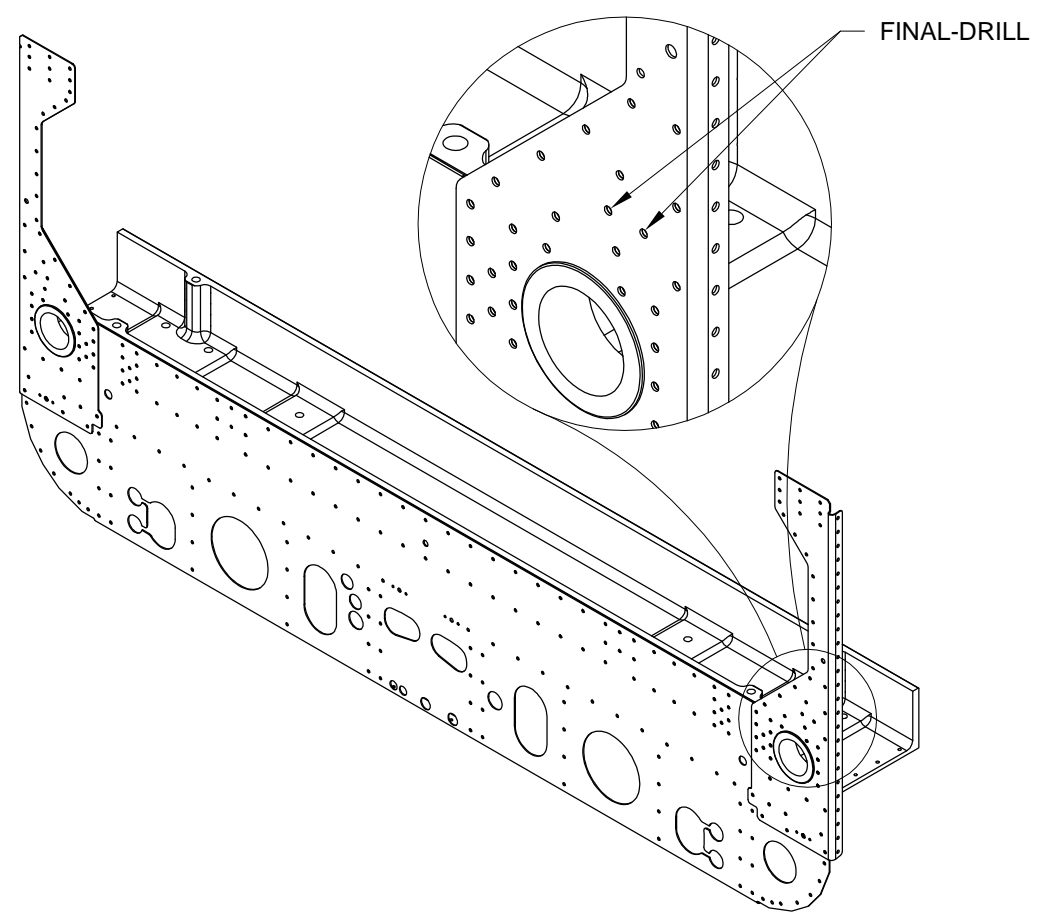

FIGURE 4: FINAL-DRILL F-01204-1
Step 6: Final-Drill #12 the two #30 holes in the F-01204-1 Assembly per the call-out in Figure 4.